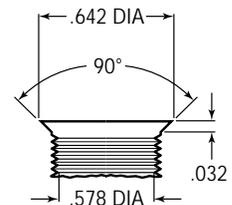
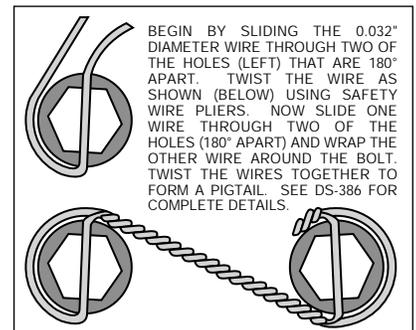

Figure 3. Drill and Tap Detail
Figure 4. Safety Wire Diagram
•**NOTE:** 1964-66 spindles may require the following modifications (reference Figure 1 and Figure 3): Top anchor pin hole (Z) must be drilled and tapped to the dimensions as outlined in Figure 3. Bottom rear steering arm bolt hole (Y) in the spindle and steering arm must be enlarged to .50" by drilling. A 1/2-20 backing nut (not supplied in kit) will need to be acquired to torque bracket / steering arm bolt (supplied in kit).
•Apply red *Loctite*® 271 to bolt threads (3 and 4, or 4A for disc spindle application) before assembly of the caliper mounting bracket (1). Mount bracket (1) to dust face plate of spindle using the bottom bolt (3) while positioning spacer (2) between bracket and spindle face, finger tighten only. Install the upper bolt 4 (or, for disc brake spindle, use 4A with spacer 2A positioned between bracket and top hole of spindle face), torque to 120 ft-lb. Torque bolts (3) to 77 ft-lb. **NOTE:** Be sure the heads of the bracket (1) insert nuts are facing outward toward the wheel. **NOTE:** Because of a tolerance variation among spindles, it may be necessary to install a shim washer (23 and/or 24) between the spacers (2 and/or 2A) and the bracket (1) in order to square the bracket to the rotor.
•Install wheel studs (5) into the hub (6). Torque to 77 ft-lb. **NOTE:** There are two five lug patterns in the hub (5 x 4.50 and 5 x 4.75). Make sure of the correct hole pattern for the correct wheel application before installing studs into hub.
•Pack the large inner bearing cone (7) with high temperature disc brake bearing grease (available from your local auto parts store) and install into the backside of the hub (6).
•Install the grease seal (8) by pressing into the backside of the hub (6).
•Attach rotor adapter plate (9) to rotor (10) using bolts (11). Torque bolts (11) to 180 in-lb. Safety wire bolts (11) using standard 0.032 inch diameter stainless steel safety wire as shown in Figure 4. Please refer to Wilwood's data sheet DS-386 (available at www.wilwood.com/pdf/ds386.pdf) for complete safety wire installation instructions. **NOTE:** Dished side of adapter plate (9) should face hub (6). The mounting tabs on the rotor (10) should face toward the hub as well and line up with the holes on the adapter plate (9).
•Mount the adapter/rotor assembly (9 and 10) to the hub (6) using bolts (12). Torque bolts (12) to 22 ft-lb. Safety wire bolts (12).
•Pack the small outer bearing cone (13) with high temperature disc brake bearing grease and install into front of hub (6). Slide the hub/rotor assembly (6 and 10) with outer bearing cone (13) onto the spindle. Secure using spindle washer (14), stock adjusting nut and nut locking device. Adjust bearings per Original Equipment Manufacturer (OEM) specifications.
•Install the dust cap (15) onto the hub (6). Friction created by the o-ring (16) on the dust cap (15) keeps it from unscrewing. The O.D. of the existing spindle washer may be larger than the I.D. of the dust cap (15) not allowing it to seat against the hub face. Some grinding on the washer O.D. may be necessary to clear the I.D. of the dust cap (15).
•**NOTE:** Please reference the caution statement at the beginning of the assembly instructions. With the bleed screws pointing up, mount the caliper (17) onto the caliper bracket (1) using lock washers (18), bolts (19) and caliper spacer (20) positioned between caliper and bracket. Finger tighten. View the rotor (10) through the top opening of the caliper (17). The rotor (10) should be aligned in the center of the caliper (17). If not, adjust the caliper (17) by using 0.032 inch thick shims (20) placed between the caliper mounting bracket (1) and the caliper (17). Finger tighten and recheck alignment. Apply red *Loctite*® 271 to bolt threads (19) and torque to 30 ft-lb. Safety wire caliper bolts (19).
•Install the disc brake pads (21) and secure using cotter pin (22).